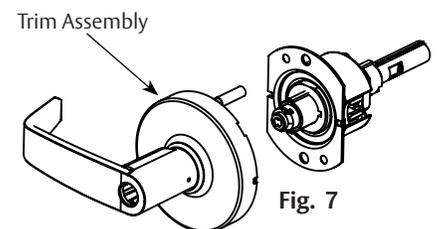

Fig. 7
- A. Remove trim assembly from the lockbody. (See Figure 7).